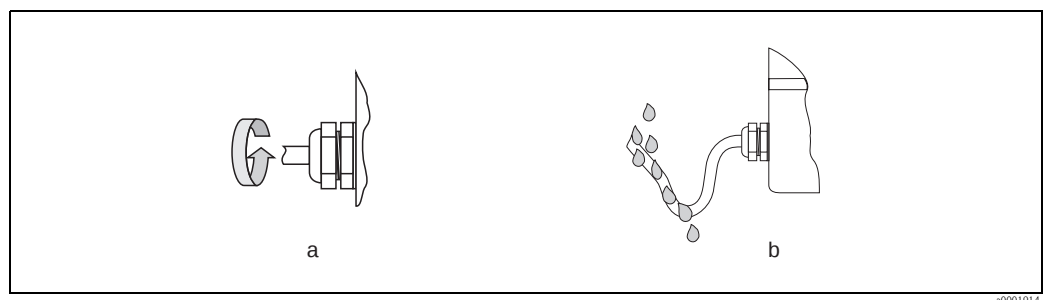

Fig. 26: Installation instructions, cable entries
- The cable entries must be firmly tighten (point **a** → Fig. 26).
- The cable must loop down in front of the cable entry ("water trap") (point **b** → Fig. 26).